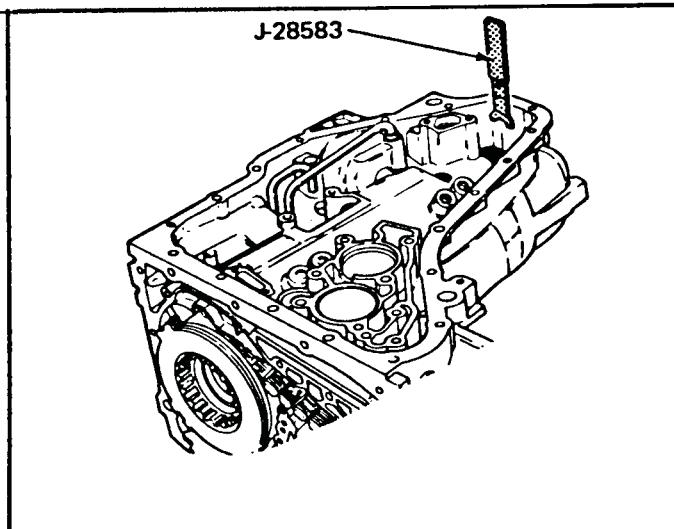

Figure 53
4. Rotate the output shaft until "C" clip opening is visible thru final drive, and remove "C" clip with removal tool J-28583. (See Figure 53).